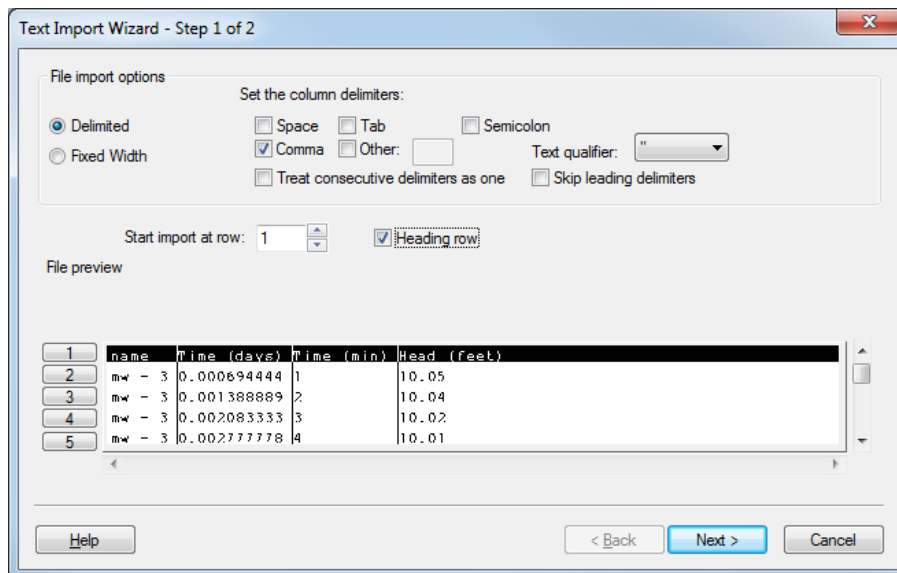

Figure 6 Text Import Wizard with Heading row checked
3. Select “obs_wells_trans.csv” and click **Open** to exit the *Open* dialog and bring up the *Step 1 of 2* page of the *Text Import Wizard* dialog (Figure 6).